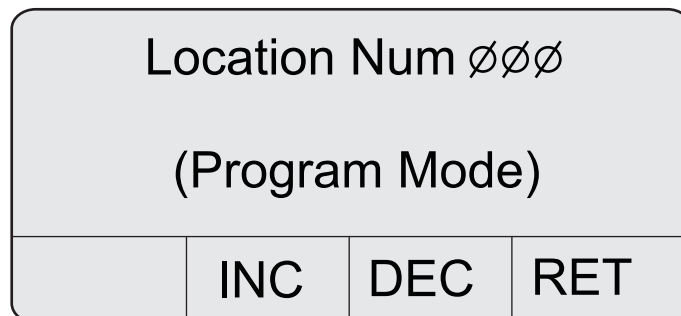

Figure 9 Location number screen
1. Press 2 (DSP) on the main screen. The Location Number screen is displayed (refer to Figure 9).